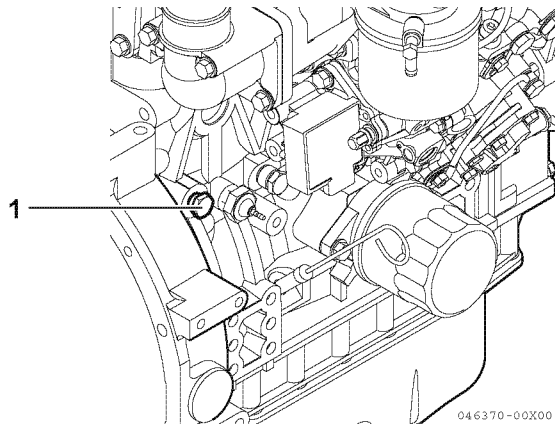

Figure 8-5
- Remove the coolant drain plug (Figure 8-5, (1)) from the engine block.